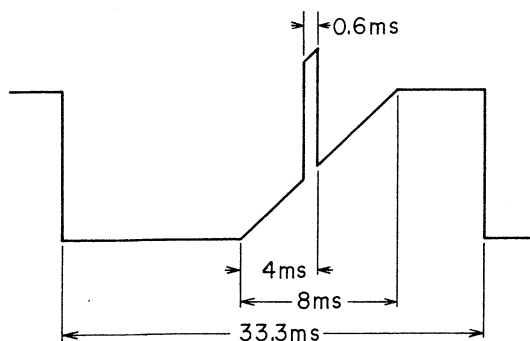

Fig. 1-43
(5) Adjustment of Position of Speed Control Sampling Pulse
- b) Adjust VR-2 so that the speed control sampling pulse is positioned slightly below the center of the ramp slope (as shown in fig. 1-43).